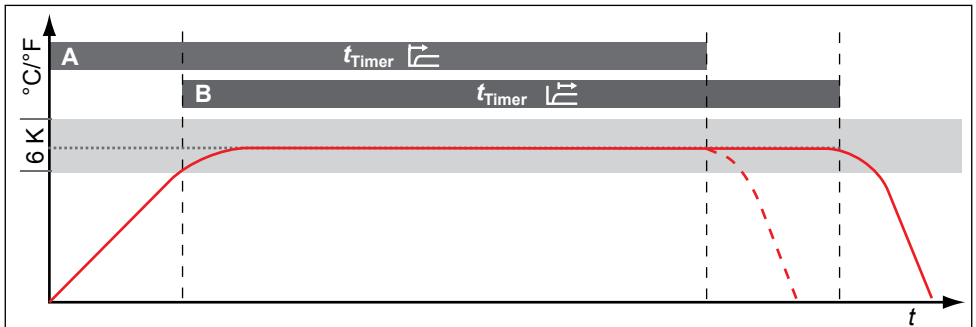

Fig. 22 Timer Mode
For universal ovens UN/UF and incubators IN/IF, you can choose if the timer (see page 25) should run setpoint-dependent or not – this determines if the timer should not start until a tolerance band of  $\pm 3$  K around the set temperature is reached (Fig. 22, B) or if it should start right after activation (A).